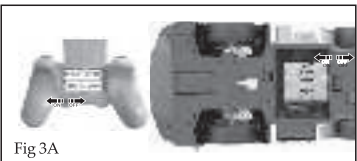

Fig 3A
- Press the ON/OFF key, there will be a start-up sound; to press the key again after starting. (Fig 3A)